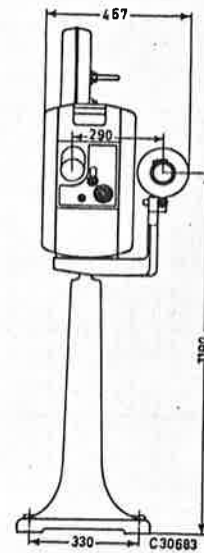

Fig.2
- Fig. 2 Dimension sketch projector on base with projection device for slides.